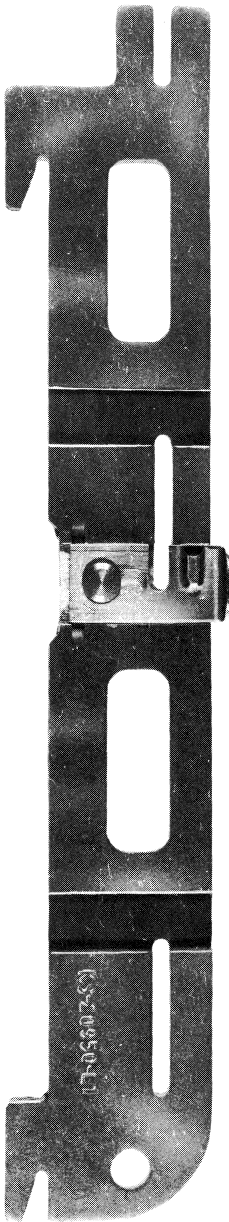

Fig. 1—KS-20950, List 2 Cover Parking Tool
- KS-20950, L2 parking tool (Fig. 1)—Used to hang cover unit assembly of 1-type set on side of housing, eliminating the need for a P11C cord
- (1) Remove cover unit assembly of 1-type sets or open door and faceplate assembly of 2-type sets.
- (2) If P11C cord is used, invert handset on switchhook of 1-type sets to prevent armored cord pushing handset off-hook when cover unit assembly is set aside.
- (3) Where possible, install cover unit assembly on a KS-20950, L2 cover parking tool (Fig. 1).
- (4) When testing, ensure that totalizer CF-DTF mode switch (C-type sets only), is in the proper position.